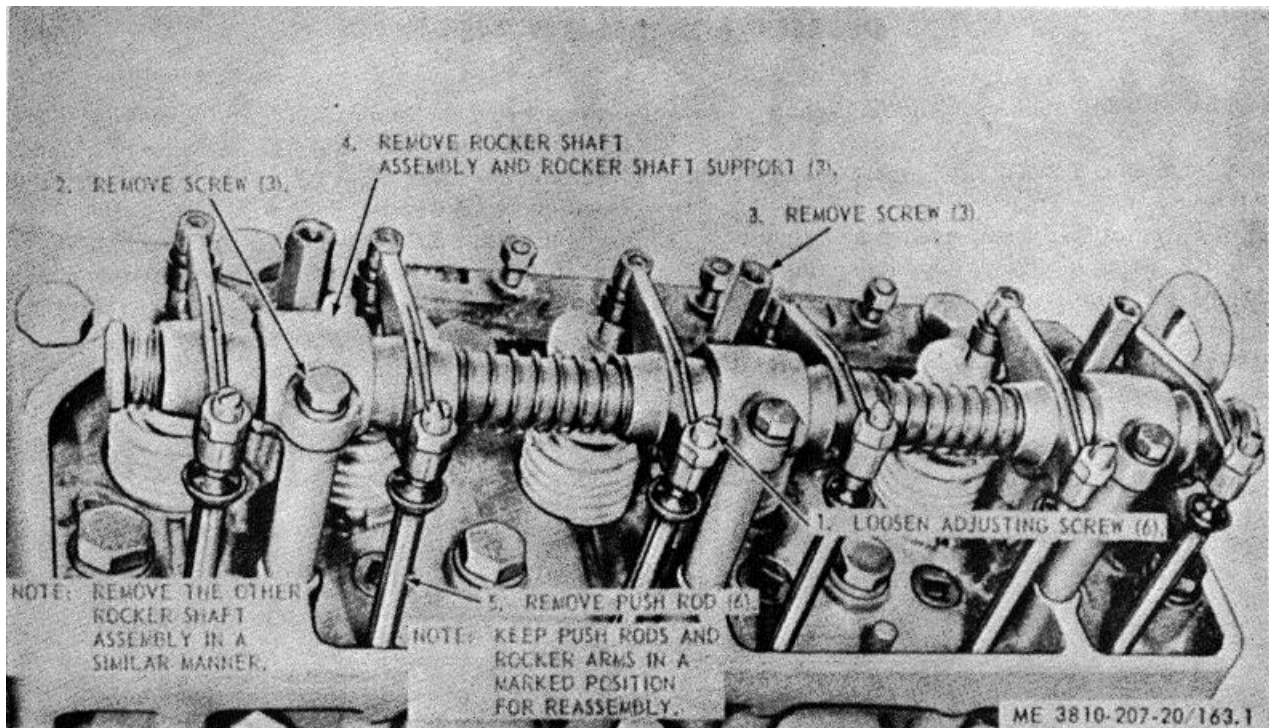

Figure 163.1. Carrier engine rocker arm shaft and push rod assembly, removal and installation
and figure 163.1 and figure 163.2 are added as follows:
(1) Remove the intake and exhaust manifolds by referring to paragraph 104.
(2) Remove the water manifold by referring to paragraph 260.
(3) Remove the spark plugs by referring to paragraph 202.
(4) Remove the rocker arm covers by referring to paragraph 265.
(5) Remove the carrier engine rocker arm and push rods assembly as instructed on figure 163.1.
(1) Install the carrier engine rocker arm and push rods assembly as illustrated on figure 163.1.
(2) Install the rocker arm covers by referring to paragraph 265.